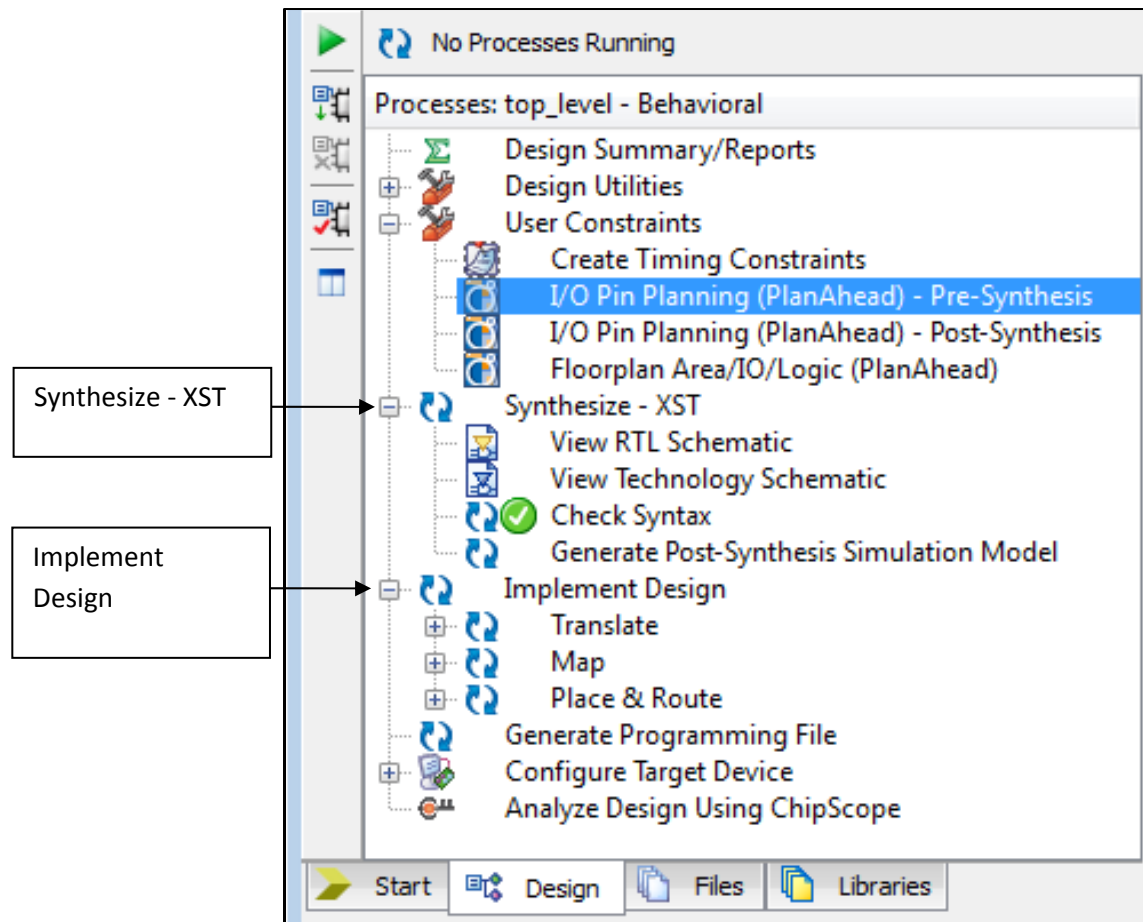

Figure 3.22: Portion of Project Navigator screen, with Implement Design expanded.
- As shown in Figure 3.22, if it is not already expanded, click on the '+' next to **Implement Design**. This will expand out to show the **Translate, Map** and **Place & Route** stages.